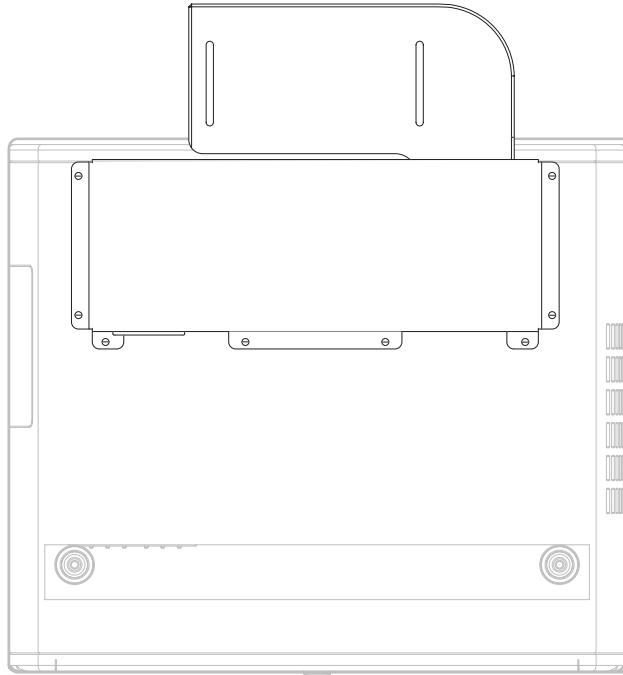

Figure 3-5. Vision 70/CineWide with AutoScope Lens Motor - Bottom View
4. Secure the motor to the projector with the eight screws and spacers provided for this purpose, as shown in Figure 3-5.